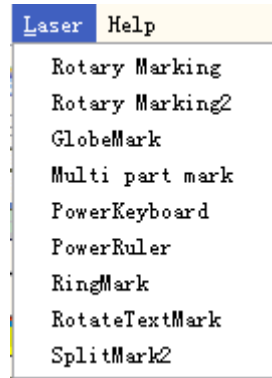

Figure 8-1
**Laser** menu mainly aims at expansion axis control, it includes following modules. As is shown in Figure 8-1: